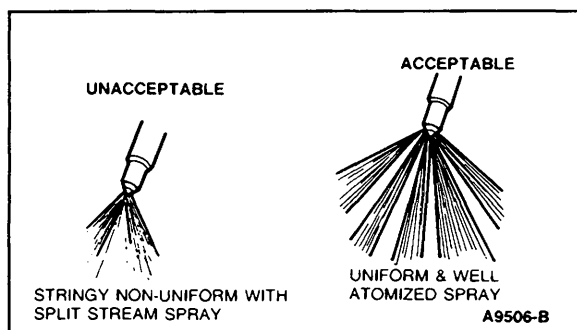

Figure 22 Spray Patterns
7. **Check the spray pattern of the nozzle** (Figure 22) by pumping the tester handle rapidly and observing the spray pattern coming from the orifices. Spray must come from each orifice and be similar in size and consistency. The spray should be well atomized and cone shaped as it comes from the injector nozzle. Injectors showing poor spray patterns should be replaced.